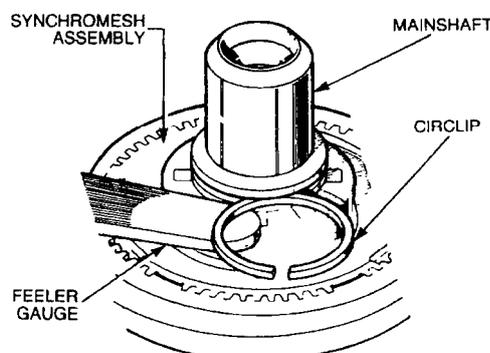

Figure 167 Main Shaft End-play Adjustment
- j.** Position the mainshaft vertically with the front end uppermost and apply a light load on the gears to remove any end play. Insert a new circlip into the mainshaft groove and measure the distance between the circlip lower edge and the third and fourth synchronmesh inner member (Figure 167). Install a suitable shim to obtain a clearance of between 0.025 to 0.150 mm (0.001 to 0.006 in) and install the circlip. The available shim range is from 1.85 mm (0.078 in) to 2.45 mm (0.096 in) in 0.15mm (0.006 in) increments.